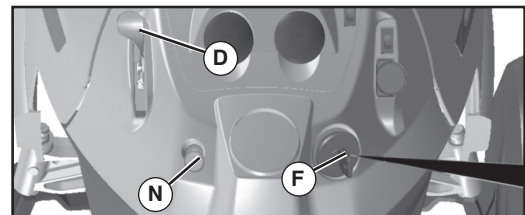

Fig. 16
- Move throttle control (D) between half and full speed (fast) position.
- Turn ignition key (F) to "STOP" position and remove key. Always remove key when leaving tractor to prevent unauthorized use.
### TO USE THROTTLE CONTROL (D) (See Fig. 16)
### TO USE CHOKE CONTROL (N) (See Fig. 16)